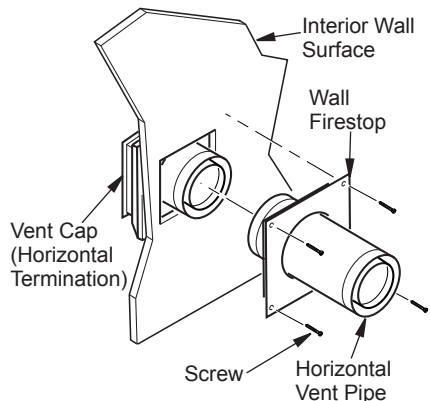

Figure 12 - Connecting Vent Cap with Horizontal Vent Pipe
7. **Connecting Vent Cap With Horizontal Vent Pipe:** Slide wall firestop over the vent pipe before connecting horizontal vent run to vent cap (see Figure 12).